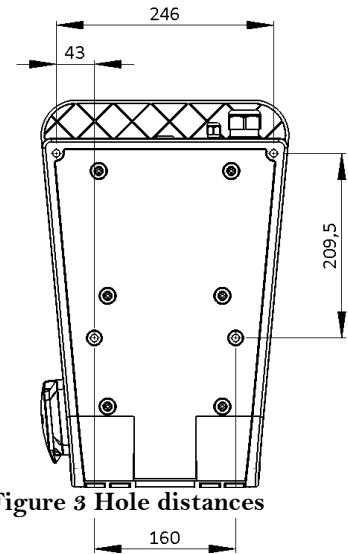
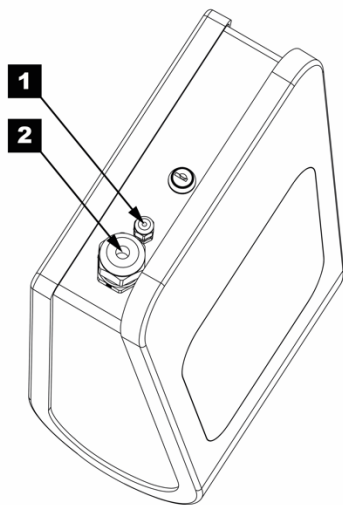

Figure 3 Hole distances
Figure 5 Cable glands for incoming cables
Step 3) Decide input location for power and network¹ – Power and network cable can either be connected from the top or the bottom. If cables are inserted from below must holes be drilled in the unit according to Figure 3. It is strongly advised that power cable is coming from below for outdoor installation, avoiding any problems with water entering the unit from the top along the cable during rain.
When cables are connected from the **top**: There are two holes on the top. The largest 2. (M32) is for power while the smaller 1. (M12) is for network see Figure 5. The cable gland for 1. that is delivered with the product supports cable dimensions between 12-22mm while the gland for 2. supports 3-6mm. The glands must be replaced if the cables are outside specified range. If the charging station shall be part of a load balancing installation or be connected to the backend via Ethernet must a network cable be connected to the controller board RJ45 port. Cable glands shall be used to protect for dust and water penetration. More information related to load balancing is available in, ref. 2) and ref. 3). If wiring is connected from below must holes be drilled in the unit according to Figure 3.